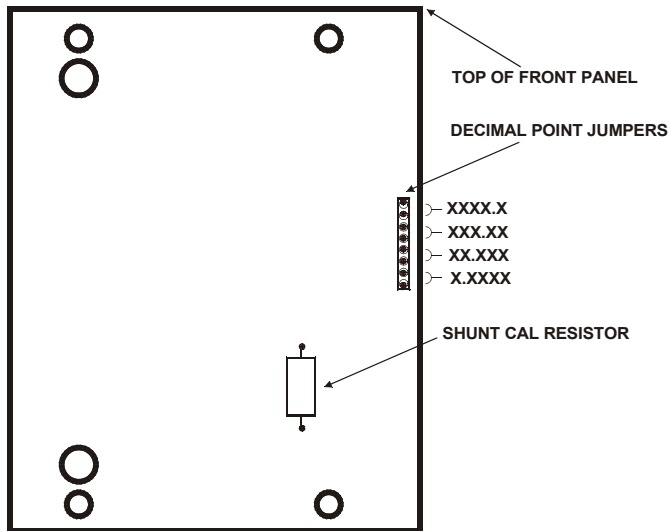

FIGURE 3: DECIMAL POINT JUMPER LOCATIONS
2. Find the decimal point jumper locations (Figure 3: on page 10).